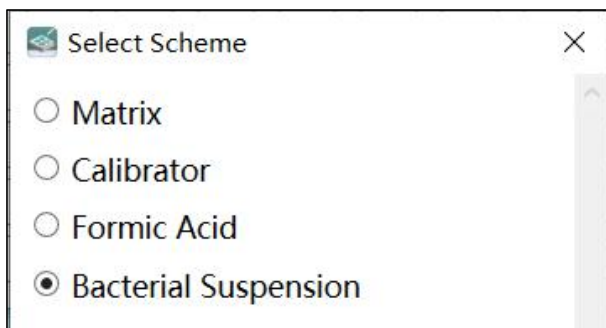

Figure 5.18 New Acquisition Method
1) Click or select one spot at the reagent area and select multiple spots at the target plate area. After clicking “Insert” button, a dialog box will be popped out showed as figure 5.18.